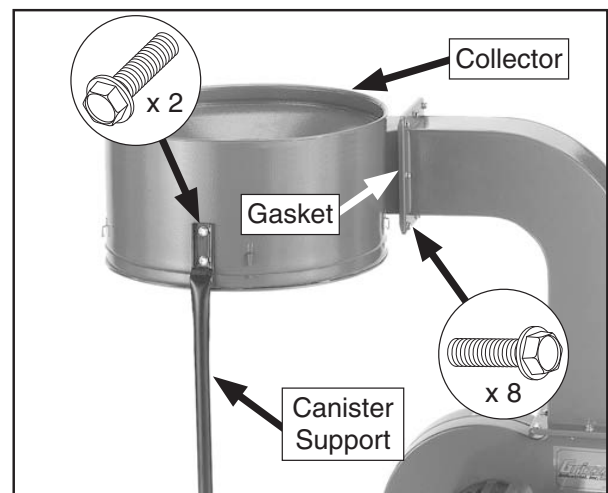

Figure 19. Collector installed.
- With assistance, position the remaining rubber gasket on the rim of the outlet connector, mate the rim of the collector with the connector, and secure it in place with (8) $\frac{5}{16}$ -18 x $\frac{1}{2}$ " flange bolts, as shown in **Figure 19**.
- Attach the top of the canister support to the collector with the remaining two $\frac{5}{16}$ -18 x $\frac{1}{2}$ " flange bolts, as shown in **Figure 19**.